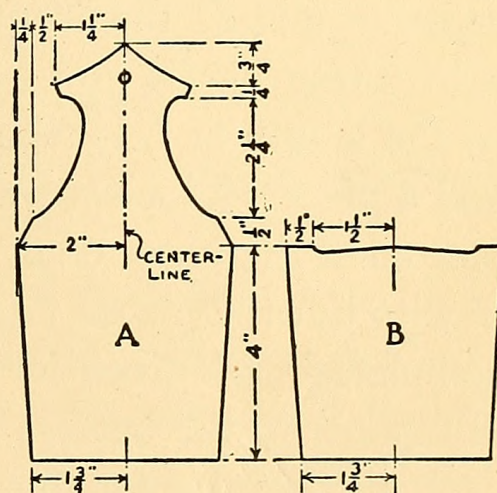

FIG. 248. — Patterns for Whisk-broom Holder.
**A Whisk-broom Holder** such as is shown in Fig. 240 is a gift which any one will appreciate for his or her room. Make the back and front pieces similar to *A* and *B* (Fig. 248) and cut the side pieces  $4\frac{1}{16}$  inches high by  $1\frac{1}{2}$  inches wide. Place the side pieces between the front and back in putting the holder together.